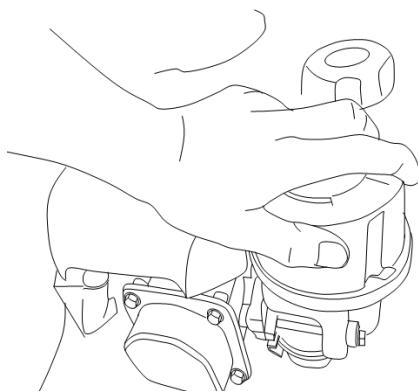

Fig.18
- 1) Pull the latches away from the air filter case (Fig. 18) and detach the air filter cover.